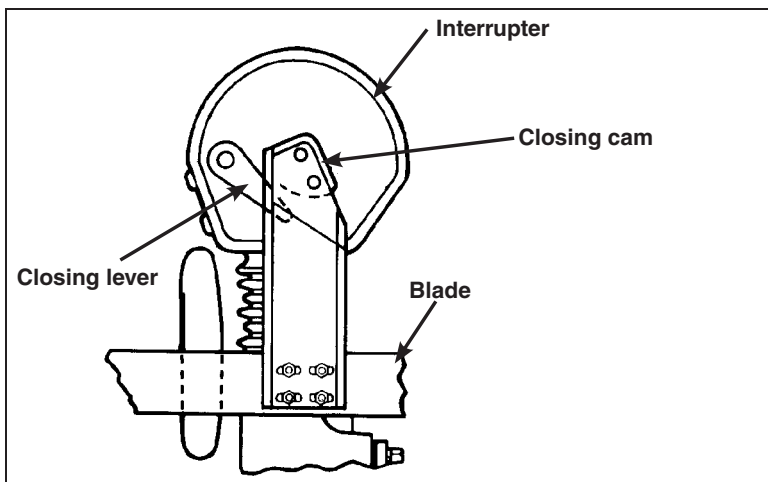

Figure 39. Blade assembly moving in closing direction.
- (b) As the blade assembly moves in the closing direction, each blade-closing cam must make positive engagement with its respective interrupter closing lever. See Figure 39.